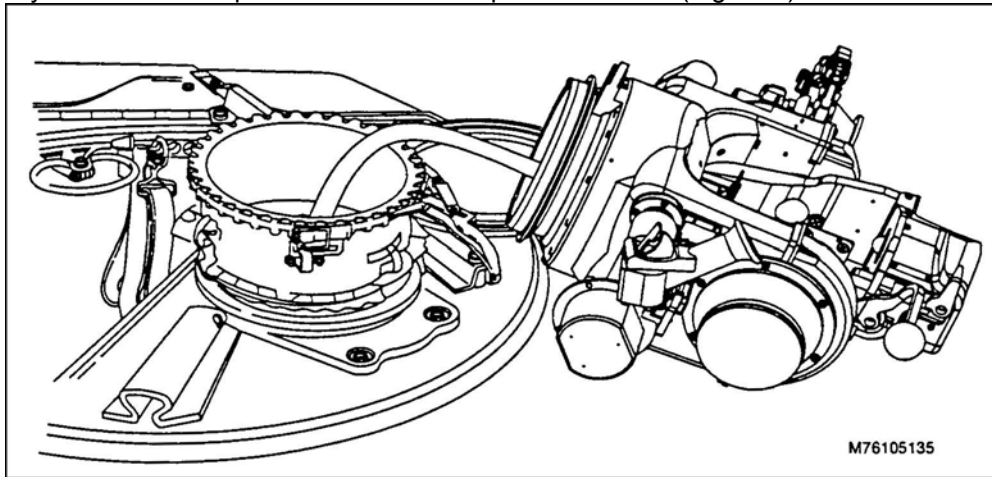

Figure 5. Lay TU down.
- c. Lay the TU and adapter down next to the pedestal mount (Figure 5).